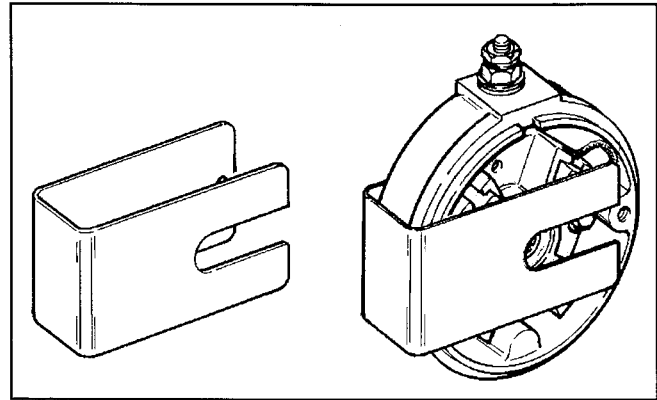

Figure 8-16. Brush Holder Tool (For UT Starters).
**NOTE:** Use a brush holder tool to keep the brushes in the pockets. A brush holder tool can easily be made from thin sheet metal. See Figure 8-16.